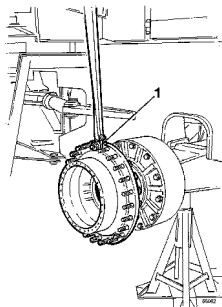

Figure 5
9. Connect a hoist to the hub, see Figure 5.
14. Lift away the wheel hub, Figure 5.
26. Adjust the discs so that the teeth align before assembling. Position the wheel hub on the axle, see Figure 5.